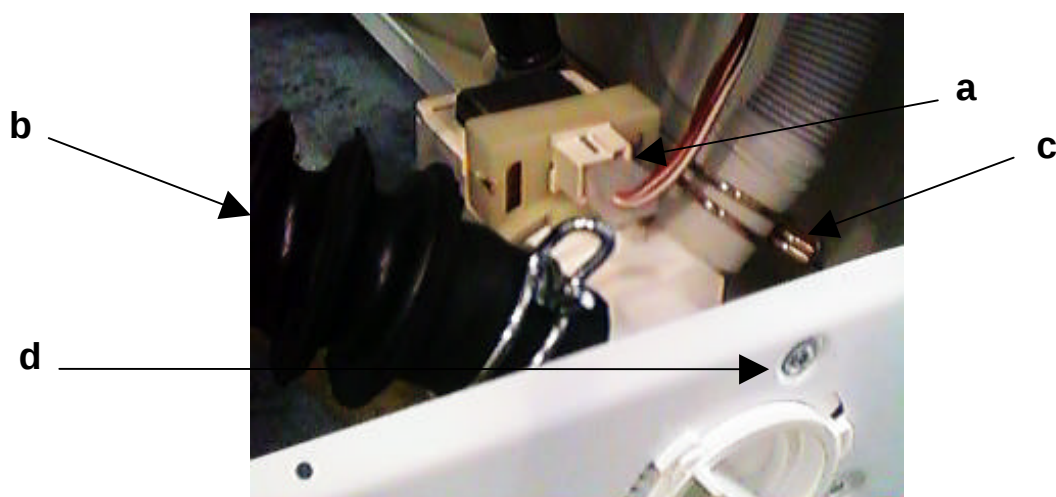

Figure : 18
- Pump cables are disconnected (figure 18/a)
- Outlet hose is released (figure 18/c)
- The screw that attaches the pump to the body is unscrewed (figure 18/d)